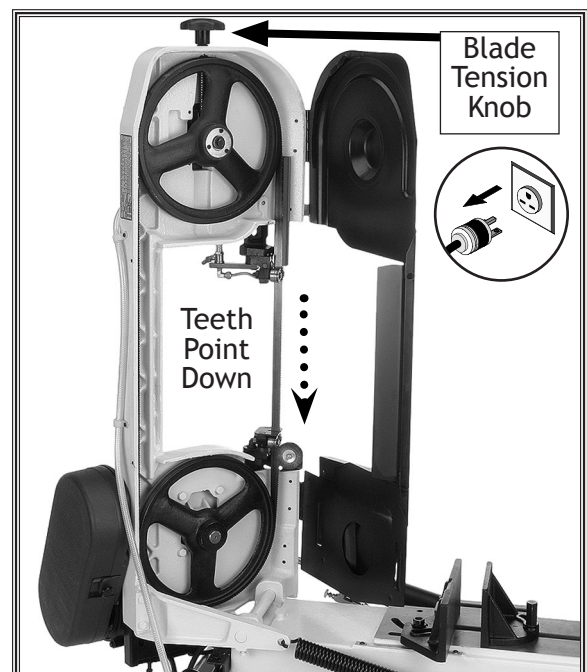

Figure 39. Open blade guard door.
5. Loosen the blade tension knob, note the direction of teeth, and remove the blade from the wheels and the blade guides (see **Figure 39**).